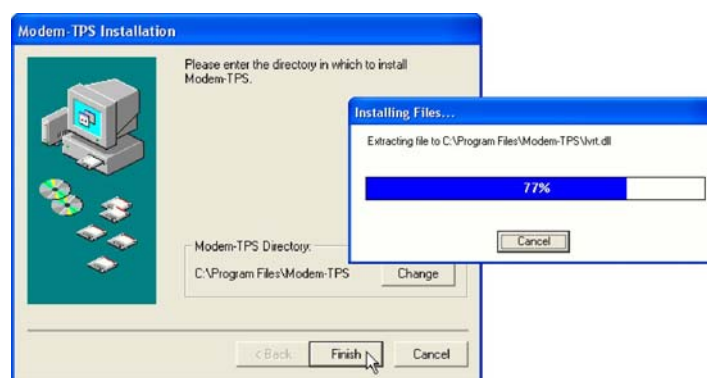

Figure 2-2. Select **Modem-TPS** Installation Location and Install
2. Keep the default installation location or select a new location. Click Finish ( Figure 2-2 ).